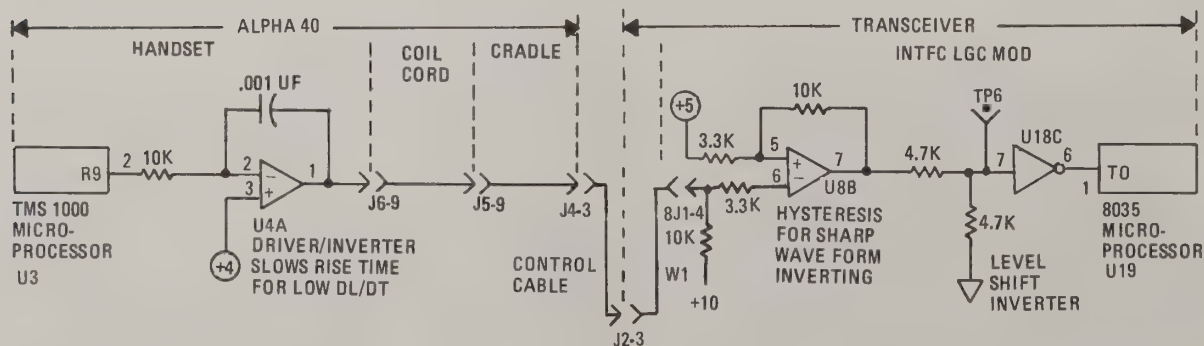

Figure 17. Handset-to-Trunk (H/T) Data Line Simplified Diagram
5.08 Figures 17 and 18 are simplified diagrams of the Handset-to-Trunk and the Trunk-to-Handset data circuits.